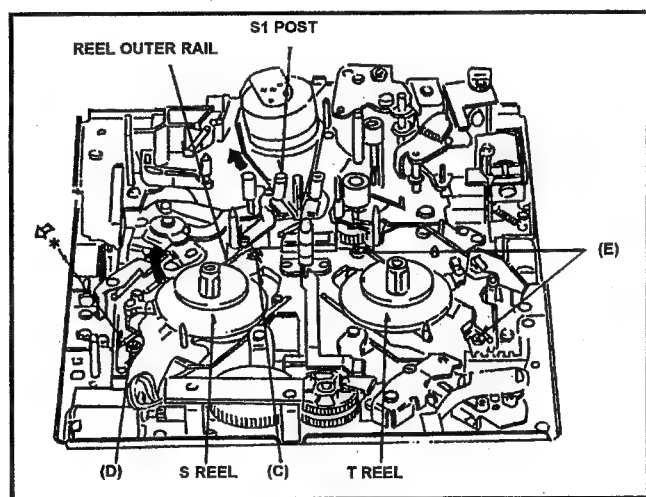

Fig. 6-3-2 Removal of S & T Reel Rotor Unit
5. Move the S1 post to loading direction by manual ejecting method until the position where the screw (C) can be removed as shown in Fig. 6-3-2.
8. Remove the 4 screws (C), (D) and (E) as shown in Fig. 6-3-2.